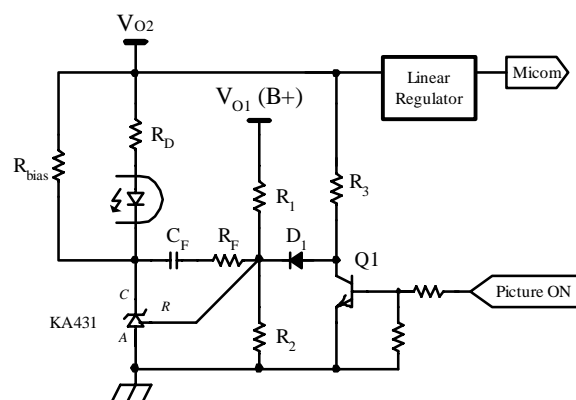

Figure 10. Typical feedback Circuit for FPS Burst Operation
6. Burst operation : In order to minimize the power consumption in the standby mode, the FSES0765RG employs burst operation. Once FSES0765RG enters into burst mode, effective switching frequency and all output voltages are reduced. Figure 10 shows the typical feedback circuit to force the FSES0765RG to enter burst operation. In normal operation, the picture on signal is applied and the transistor Q1 is turned on, which de-couples R3 and D1 from the feedback network. Therefore, only V_{O1} is regulated by the feedback circuit in normal operation and determined by R1 and R2 as